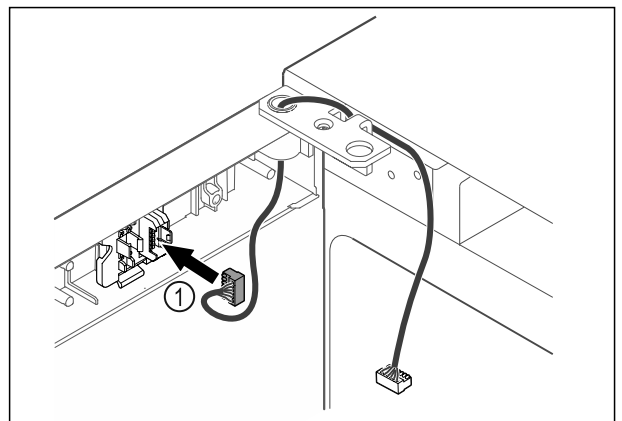

Fig. 54
- ▶ Put the plug Fig. 54 (1) in the plug holder.